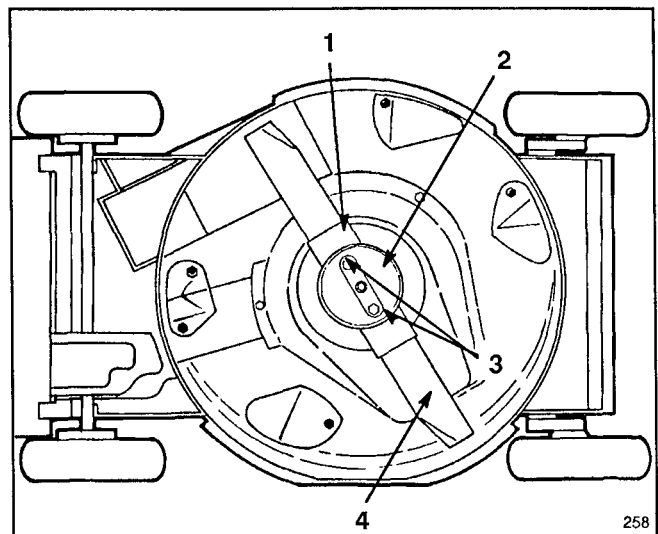

Figure 24
3. Tip mower on its left side (Fig. 24).
5. **REMOVING BLADE**—Grasp end of blade using a rag or thickly padded glove. Remove (2) blade nuts, anti-scalp cup, blade stiffener, and blade (Fig. 24).